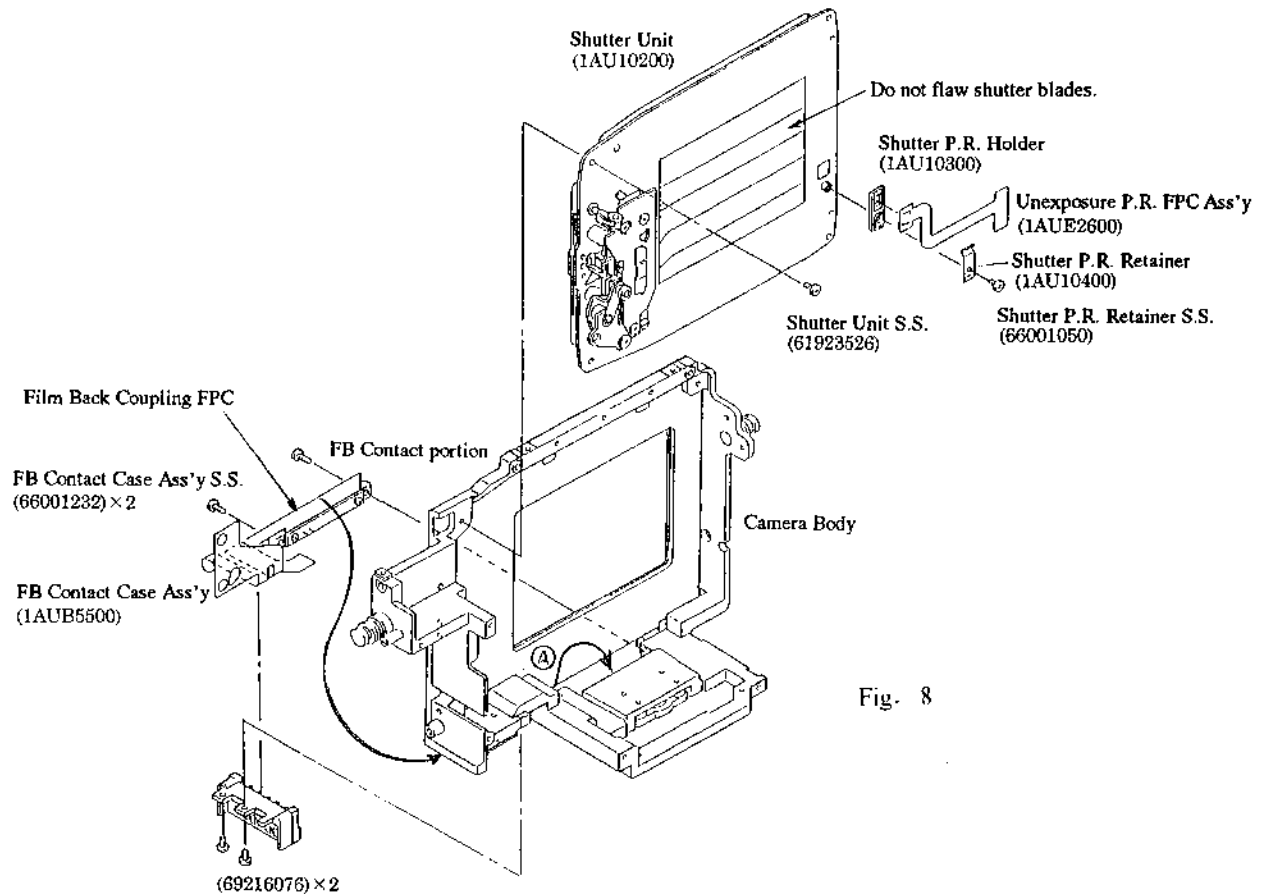

Fig. 8
(See Fig. 8)
- 1) Pass the FB Contact portion of the FB Contact Case Ass'y (1AUB5500) through the groove ㉞ in the Camera Body as shown in Fig. 8 and tighten the FB Contact Case Ass'y Setscrews (66001232)  $\times$  2.